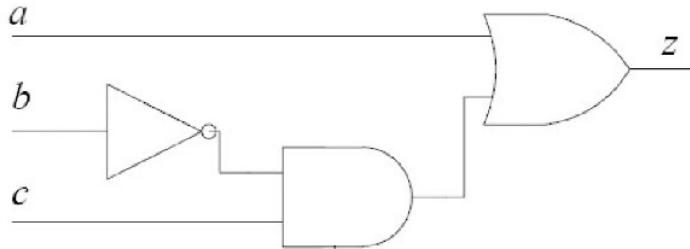

Fig. 3.21: circuit diagram
38. Consider the boolean Function  $z(a, b, c)$  from below Fig. 3.21.